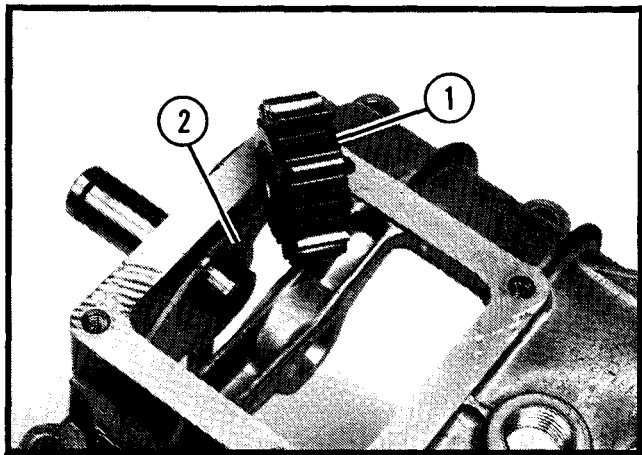

Figure 6.
1. Assemble the reverse idler gear, shaft, and thrust washer as shown in Figure 6. **Note direction of idler gear. Note direction of shaft, notch for the locking plate must be to the rear of the transmission case.**